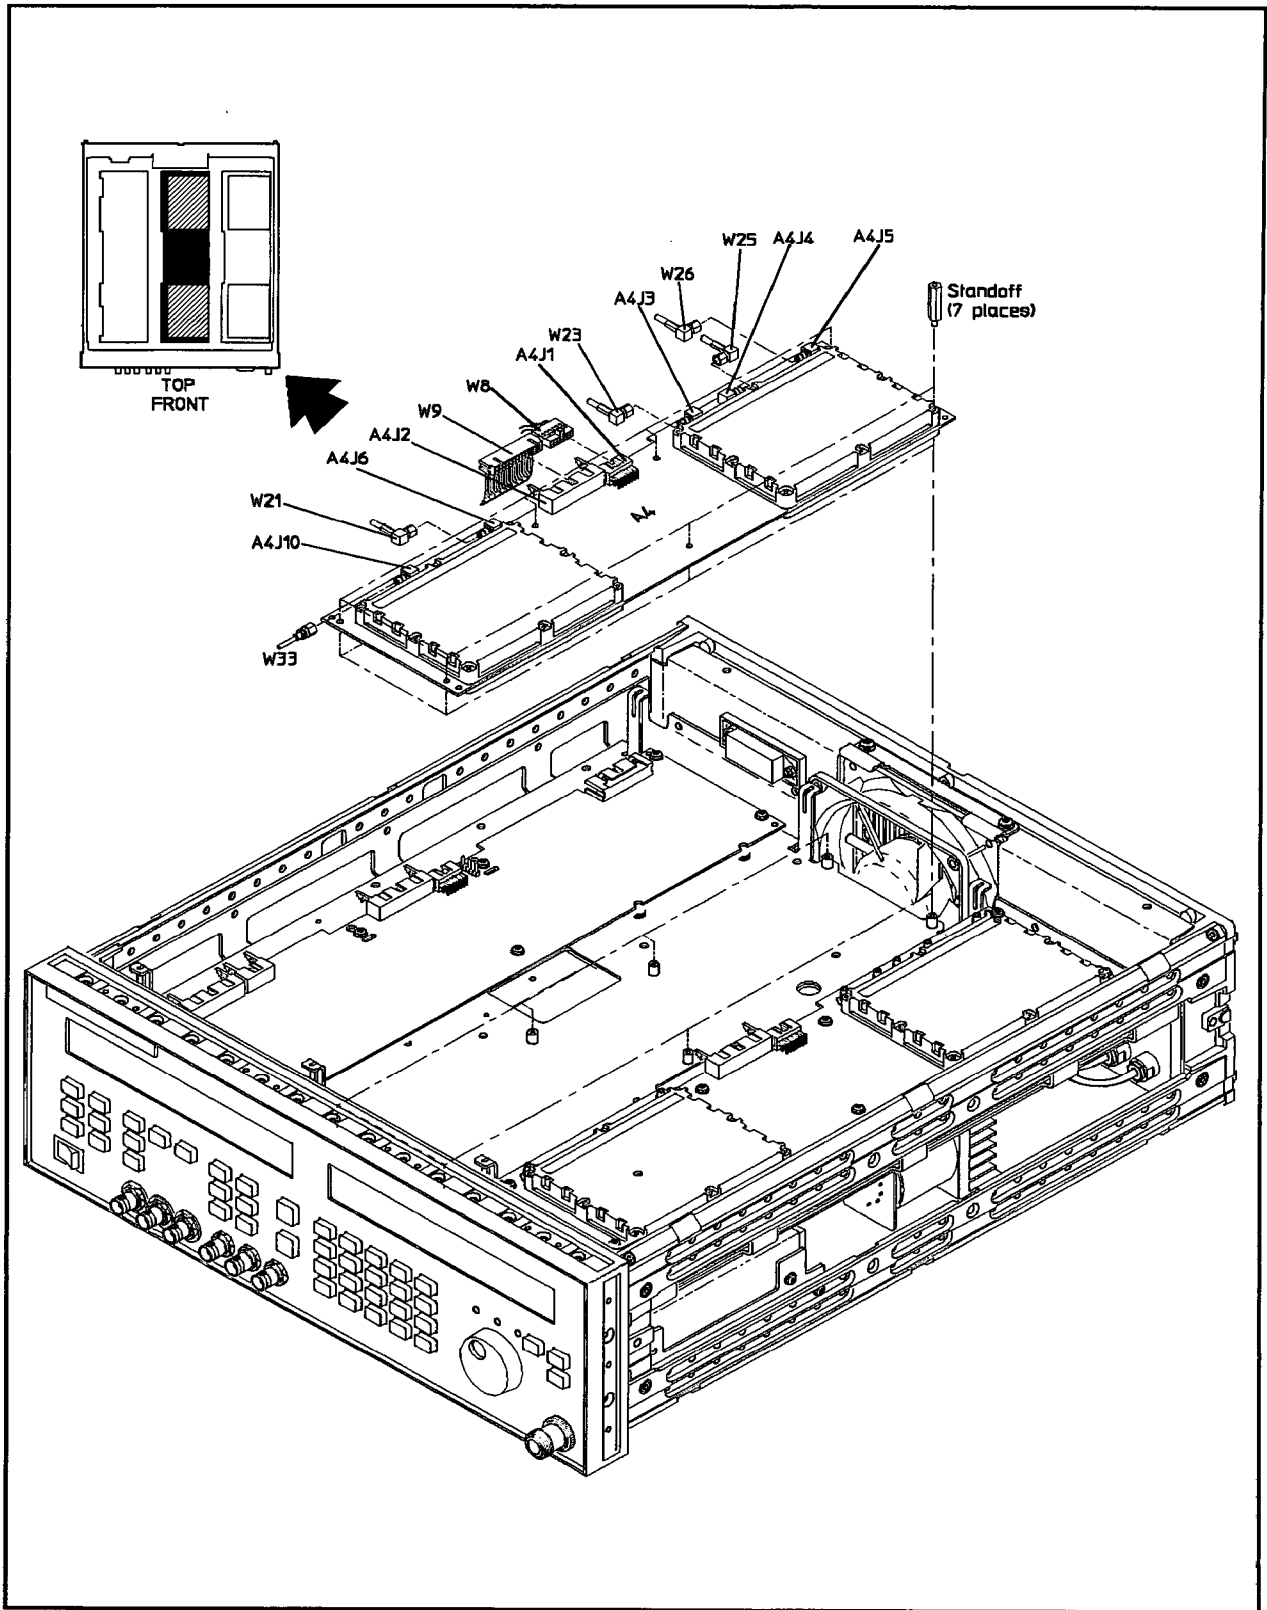

Figure 5-16. Divider and Modulation Board Assembly Removal
1. In the introduction to this chapter, refer to “Multi-wire Cables” and Figure 5-16. Then, disconnect the following cables:
2. Refer to “Flexible Coaxial Cables” and Figure 5-16. Then, disconnect the following cables using a 15/64 in open end wrench:
3. Refer to “Semi-Rigid Coaxial Cables” and Figure 5-16. Then, disconnect the following cable using a 5/16 in open end wrench: